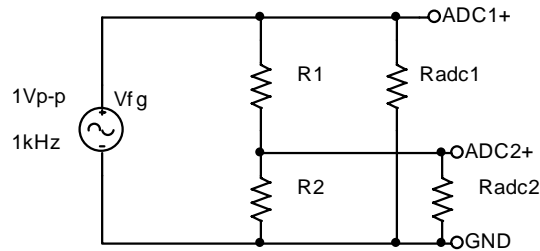
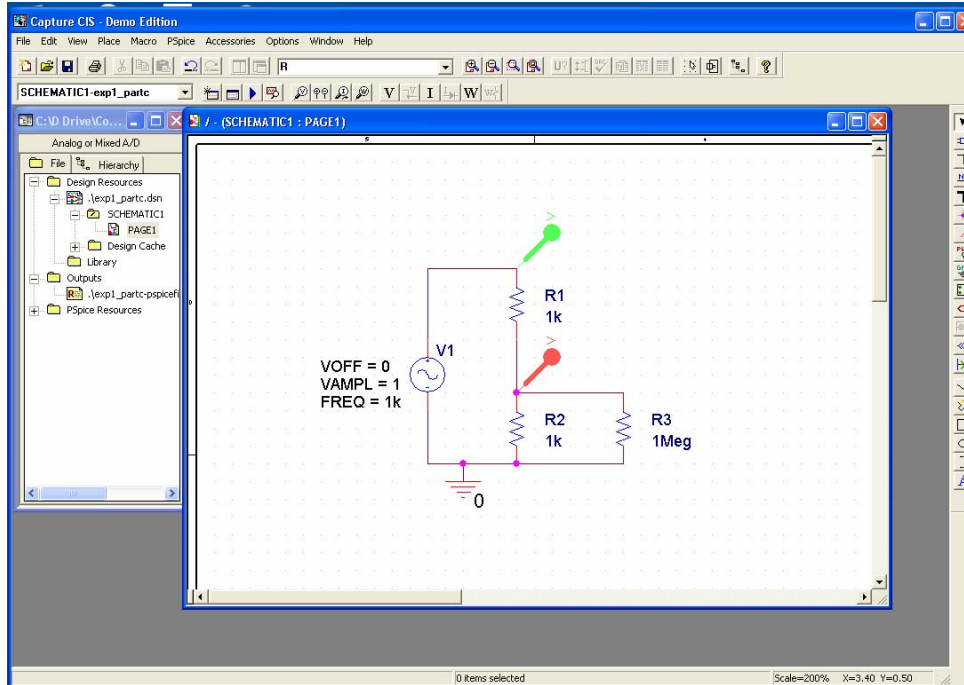
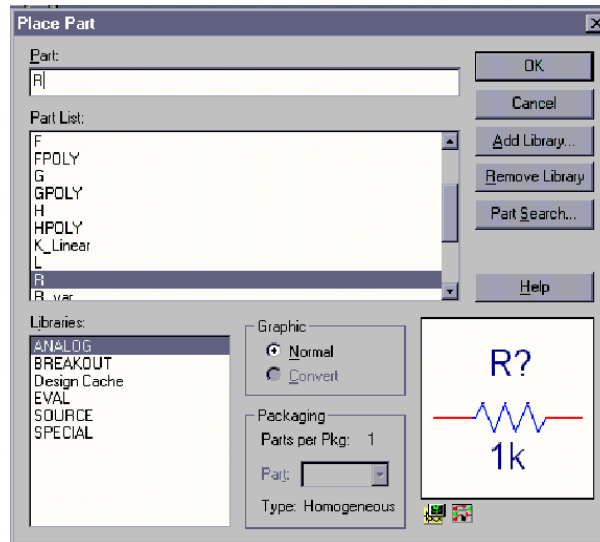

Figure B-7
Figure C-4
Figure C-5
- The more exact model of this measurement is given in figure B-7, where R_{adc1} and R_{adc2} represent the effective internal input resistances of the channels of the IOBoard. The effective input resistance of ADC1 can be ignored, but the input resistance of ADC2 effects the measurement. Using the measurements above, estimate the value of R_{adc2} .
Figure C-4 is a picture of the *Capture* main screen with the circuit we will be drawing. Note that this is the circuit used in figure B-7 including the input resistance of one channel of the IOBoard.
In the circuit shown in figure C-4, we have some resistors, an AC voltage source, a ground and some wires. To create this diagram, we will use the command buttons. For the resistors and the voltage source, we will click on the second button from the top that has the device with the three little wires sticking out of it . You can also do this by using the *Place* menu or by hitting shift-P. You should bring up a screen similar to the one pictured in figure C-5.